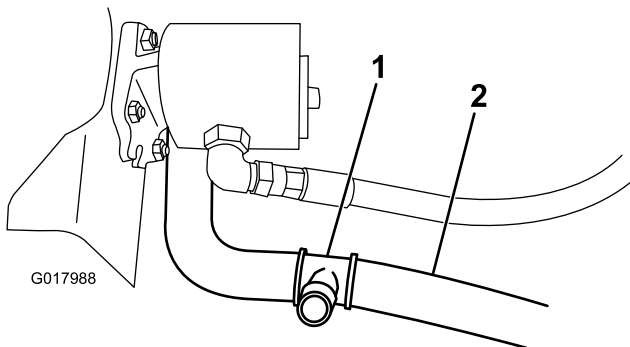

Figure 11
2. Cut the lower radiator hose about 3 1/2 inches from the centerline of the hose at the 90 degree bend (Figure 11).
3. Connect the tee fitting to each newly cut end of the lower radiator hose with the 2 wide hose clamps (Figure 11).